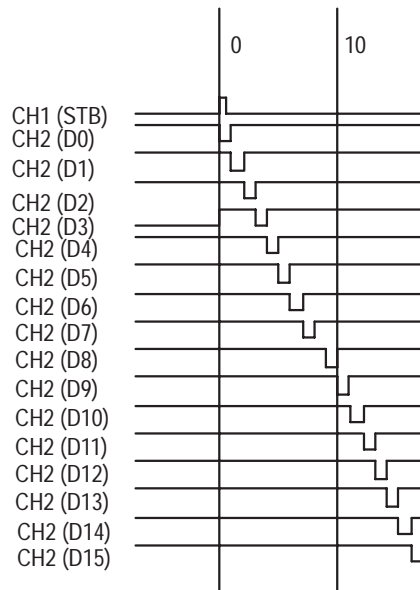

Figure 9-5: Timing Chart
7. Verify that the CH1 waveforms are similar to the waveforms shown in Figure 9-5.
8. Connect the CH2 Probe on the oscilloscope to the D0 connector on the termination Board. Verify that the output signal data pattern is similar to the waveform shown in Figure 9-5. Repeat this procedure on the output signals from the D1 through the D15 connector.